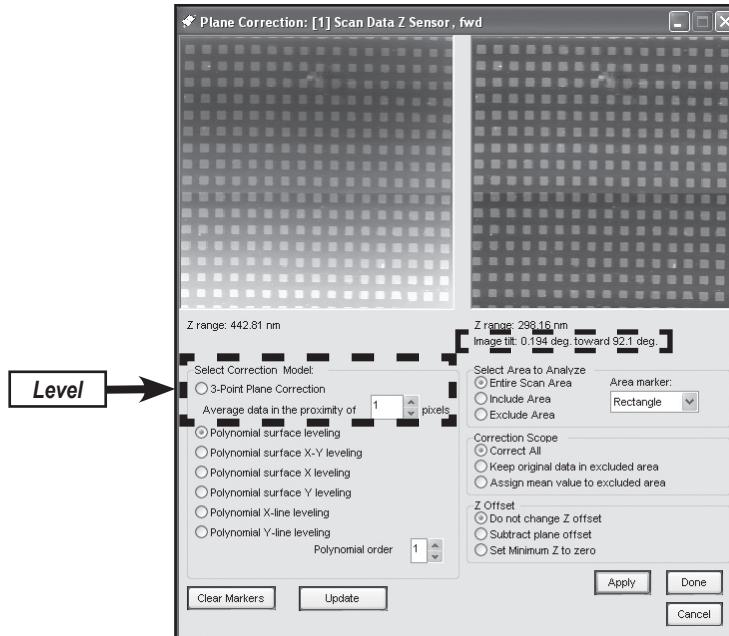

Figure 5.8: Plane Correction window shows calculations for leveling stage
4. Click the Plane Correction button (Figure 5.8). Select polynomial surface leveling with polynomial order 1, or select 3-point plane correction.
5. Click Apply. You will notice information about the measured image tilt (for example 0.194 deg. toward 92.1 deg.) below the processed image. This information is stored internally and is available for stage leveling (Figure 5.8).